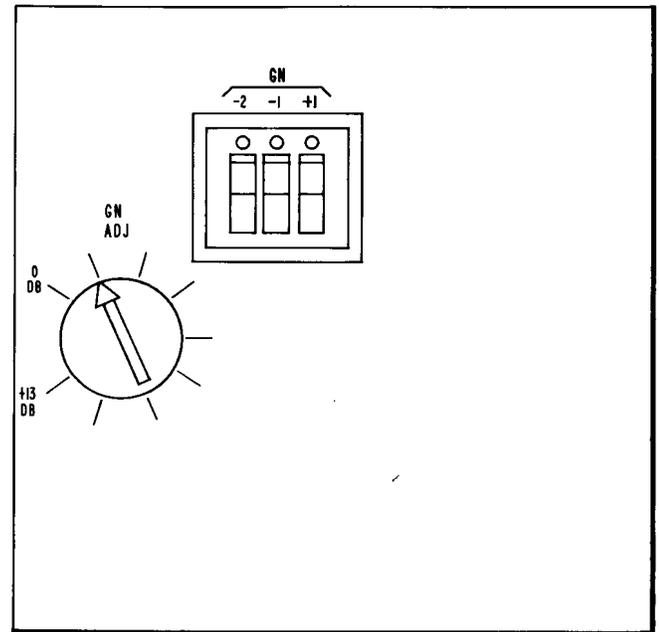

Fig. 1—309A Repeater Unit
1.12 Gain adjustment is controlled by three rocker switches and a potentiometer mounted on top of the module (Fig. 1). The switches labeled -2, -1, and +1 are operated when pressed toward the number. The numbers represent 20 dB loss, 10 dB loss and 10 dB of gain, respectively. Only one switch should be operated at a time. When all switches are off, the gain of the 309A repeater unit is 0 dB. The potentiometer is used for fine adjustment and its value (0 to 14 dB) is added to the switch setting for total flat gain of the unit.